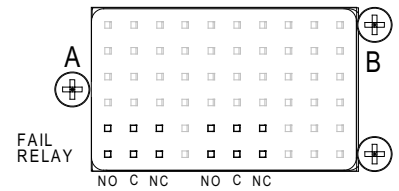

Figure 10 - Fail Relay Alarm Pins
27. Record the circuits on the designation card provided, as specified by the operating company procedure. (The front side of the card is shown in Figure 10.)